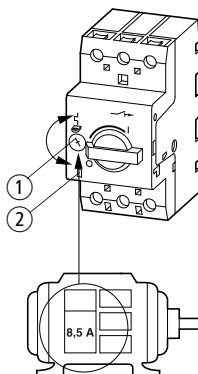

Figure 1: PKZM0/XTPR...BC1 motor-protective circuit-breakers
The rated motor current is set on the PKZM0/XTPR...BC1 units by means of a current dial ① (→ fig. 1, page 28).
Proper functioning of the circuit-breaker can be verified by means of the testing feature ② (→ fig. 1, page 28).